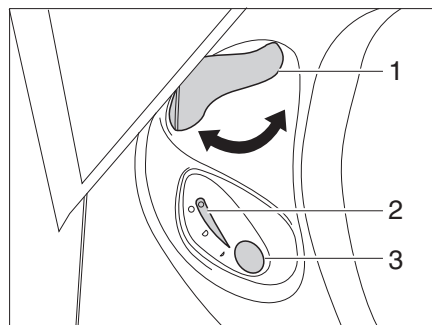

Fig. 142 Operating unit Thetford toilet
- Before flushing open the sliding trap of the Thetford toilet. To do this, turn the slide lever (Fig. 142,1) anticlockwise.
- For flushing, press the blue flush button (Fig. 142,3).
- After flushing close the sliding trap. To do this turn the slide lever (Fig. 142,1) clockwise.
The indicator lamp (Fig. 142,2) goes on whenever the Thetford cassette has to be emptied.
- Turn the slide lever (Fig. 142,1) clockwise. The sliding trap is closed. To empty, the sliding trap in the Thetford toilet **must** be closed.